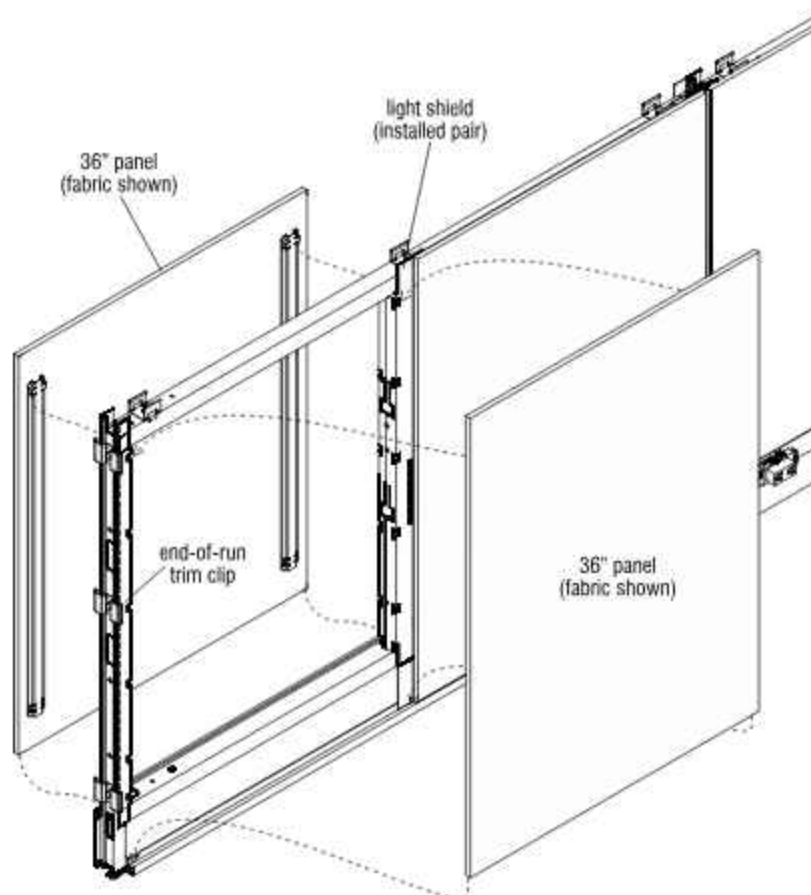

Figure 8 - 72" Panel Frame, Split-Tile Installation
1. Position the 36" panel tile such that the "open tabs" at the top of the vertical tile stiffeners are at the top of the panel frame (Figure 8).
2. Hold the tile up, then center and nest the bottom of the tile into the bottom trim channel. Push the top of the tile against the frame and lift such that the tabs at the top of the stiffeners enter the P-slots. Push in and down gently to allow tile bottom to nest down into the bottom trim channel (Figure 8).